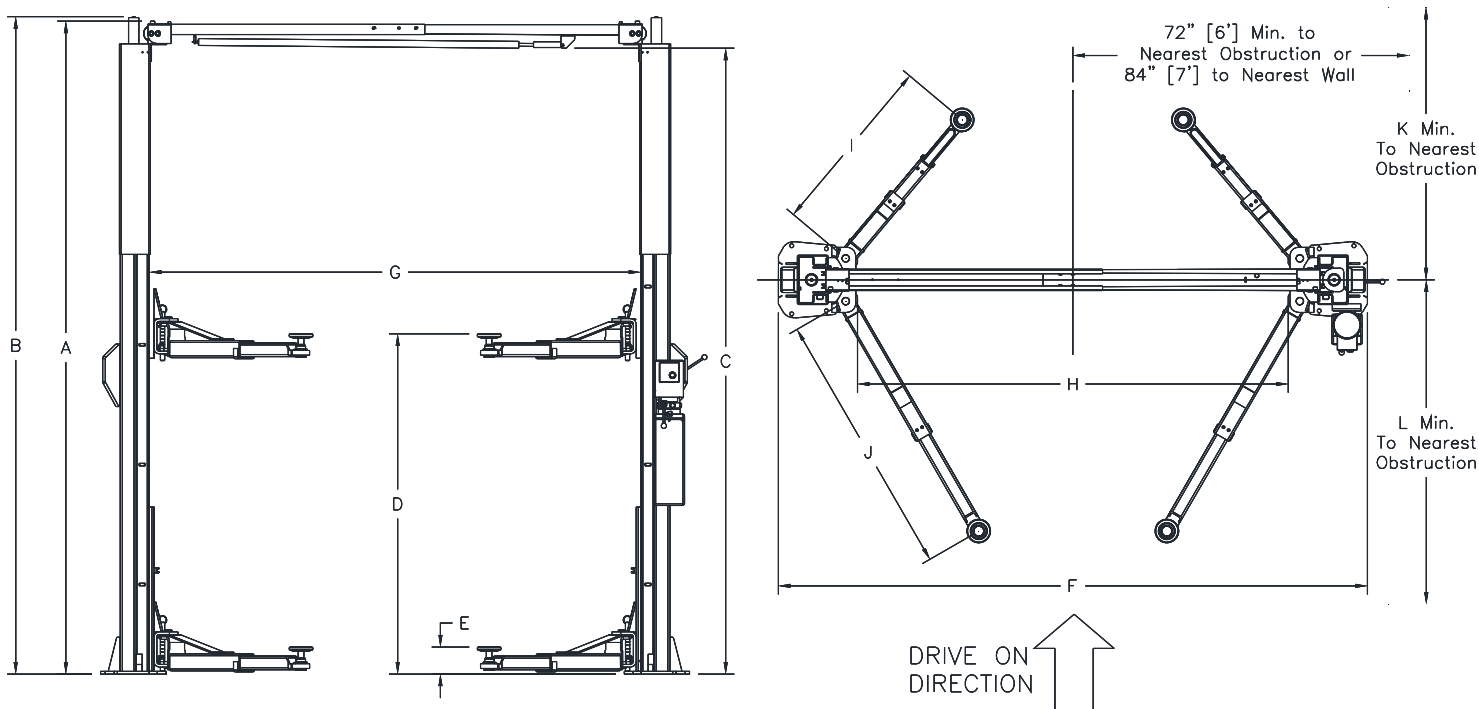
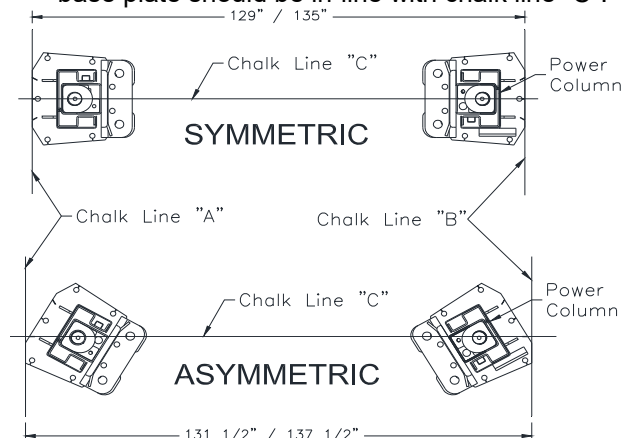

Fig 1 - General Specifications / Service Bay Layout
Fig 4 - Layout
- Layout the service bay according to architect's plans or owners' instructions (**see Fig 1**). **Failure to install in this orientation can result in personal and property damage.** Be certain that the proper conditions exist, see page 3.
- 7) Refer to **Fig 1**. Using the Base Width (D) Dimension, chalk two parallel lines (A & B) on the floor within 1/8" tolerance. Chalk a third line (C) perpendicular to lines A & B to designate fore and aft location. Erect both Column assemblies. Align the base plate edges to the chalk lines as seen in **Fig 4** below. Slots in front and back of base plate should be in-line with chalk line "C".